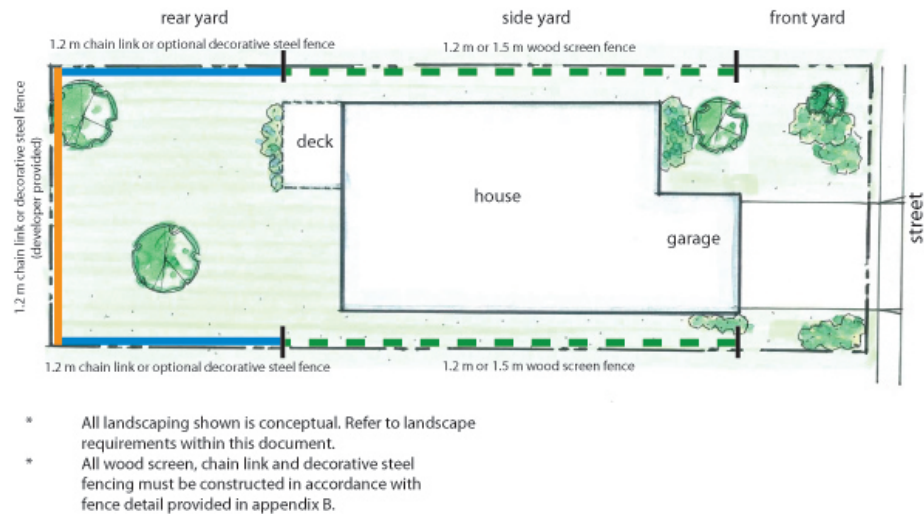

Figure 3: Fencing Plan – Stormwater Management Facility and Neighbourhood Parks and Walkway Lots
- 12.3.4 Fencing for all lots backing onto the stormwater management facility, neighbourhood open spaces and major walkways shall be designed as shown in **Figure 3: Fencing Plan – Stormwater Management Facility, and Neighbourhood Parks and Walkway Lots**. On the side property line, 1.2 m or 1.5 m wood screen fencing is required along the length of the house up to the end limit of the rear deck. Further back from the rear deck, the side yard fence shall be 1.2 m chain link fencing, or optional decorative steel. NOTE: Gates are not permitted in the rear yard fencing along any Stormwater Management Facility.